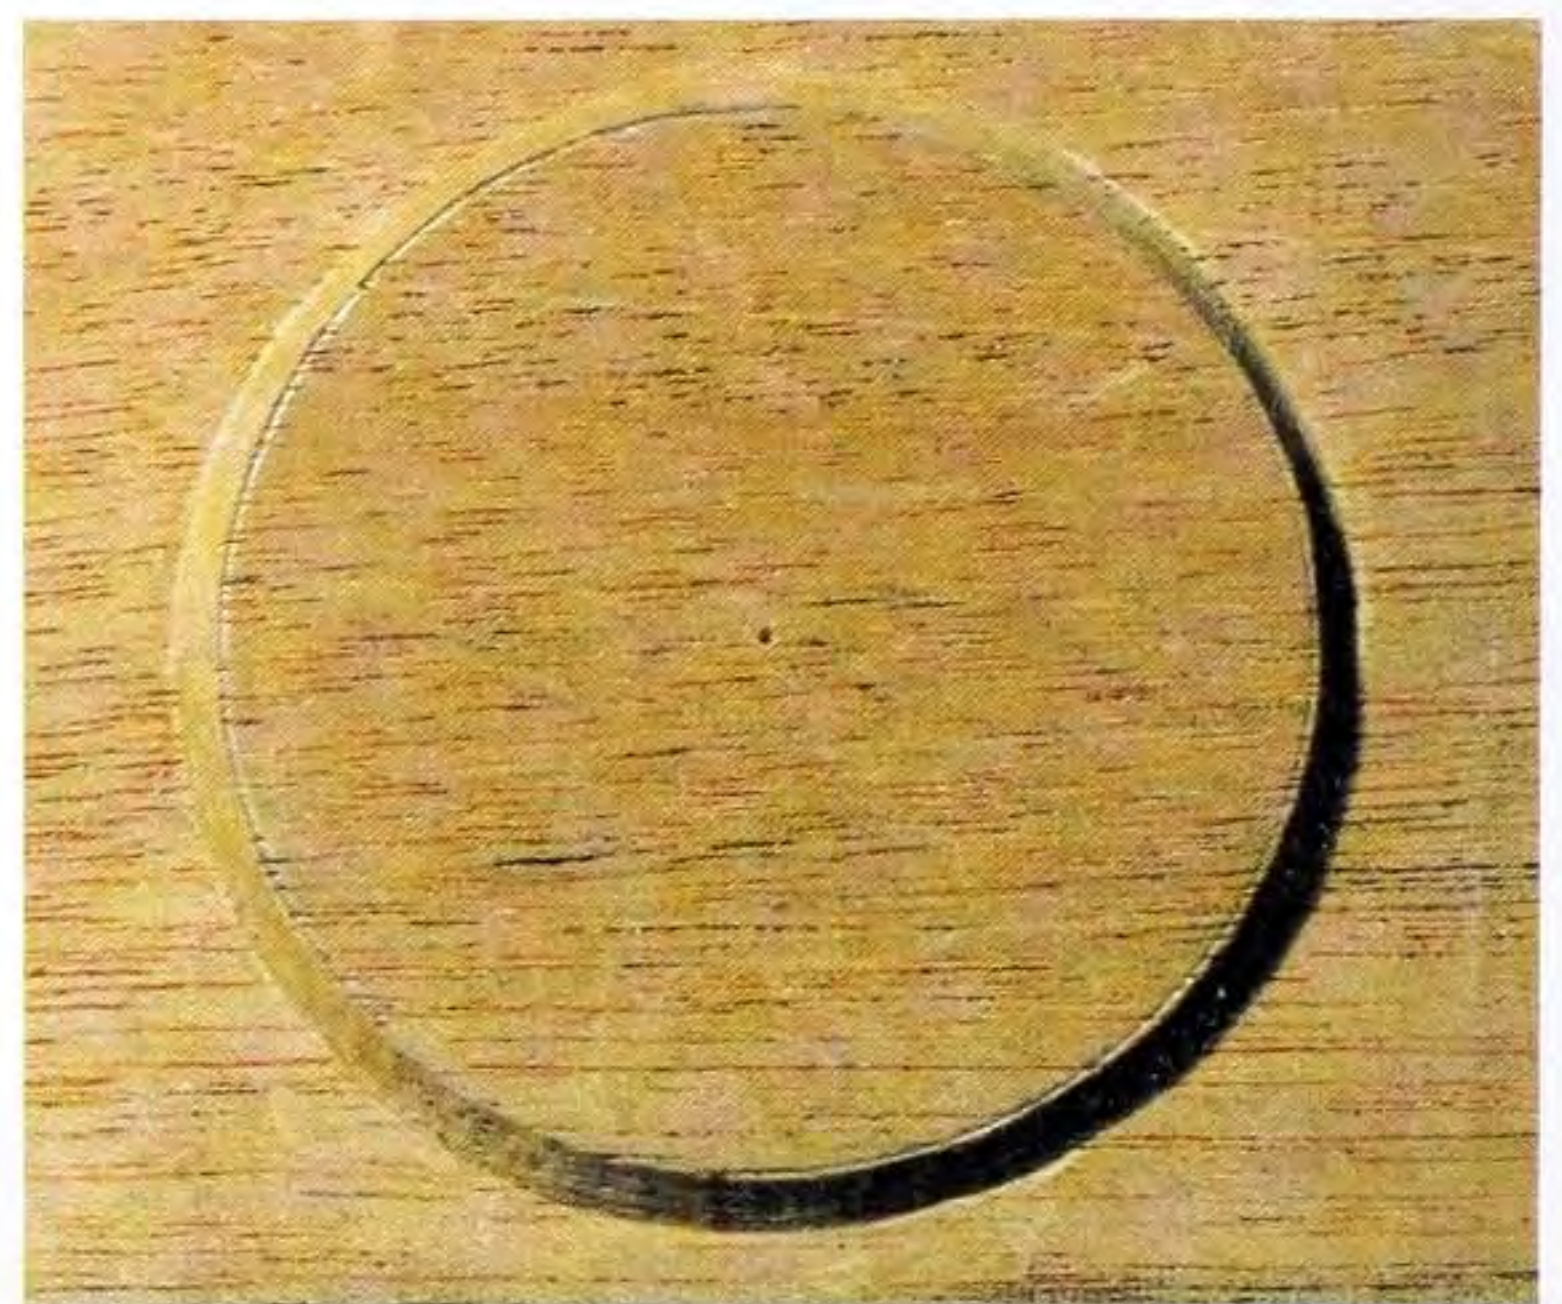

Fig 8.27 The finished circle. Note the soft ground junction resulting from the rounded apex of the V tool.
- 11 Finally, you may have to touch up the ground edge with the V tool before finishing off with the gouge (see Fig 8.27).